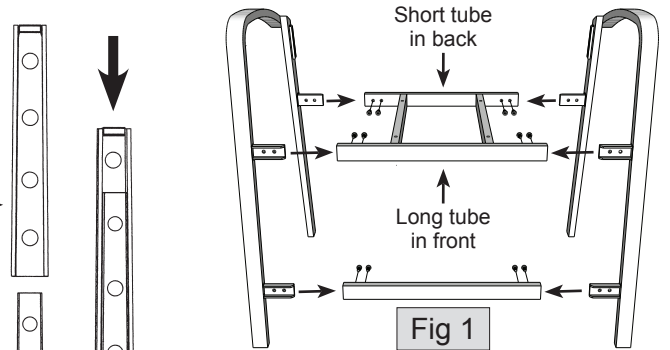

Fig 1
2. Connect H-frame and footrest between left and right leg frames, as shown in figure 1. Stems on leg frames slide inside tubes. Be sure long tube of H-frame is in front and short tube is in back. Attach using  $\frac{5}{8}$ " Allen bolts. Keep bolts slightly loose.